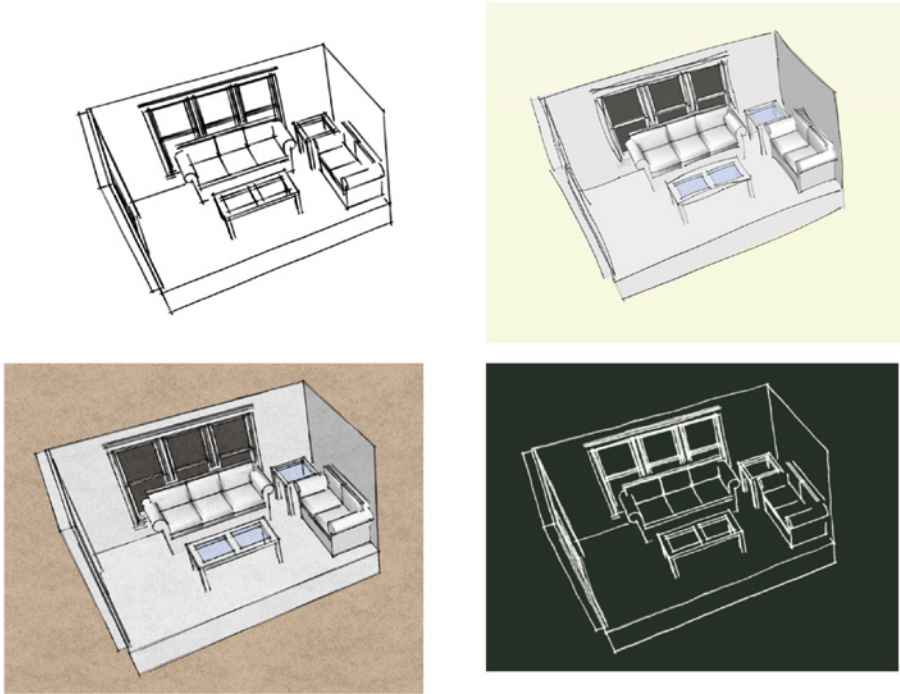

Figure 1-7: Four of the many line types and styles in SketchUp.
- ▶ *Apply artsy styles with one click* (Figure 1-7). Export as high-resolution JPGs or animations for marketing and presentations.